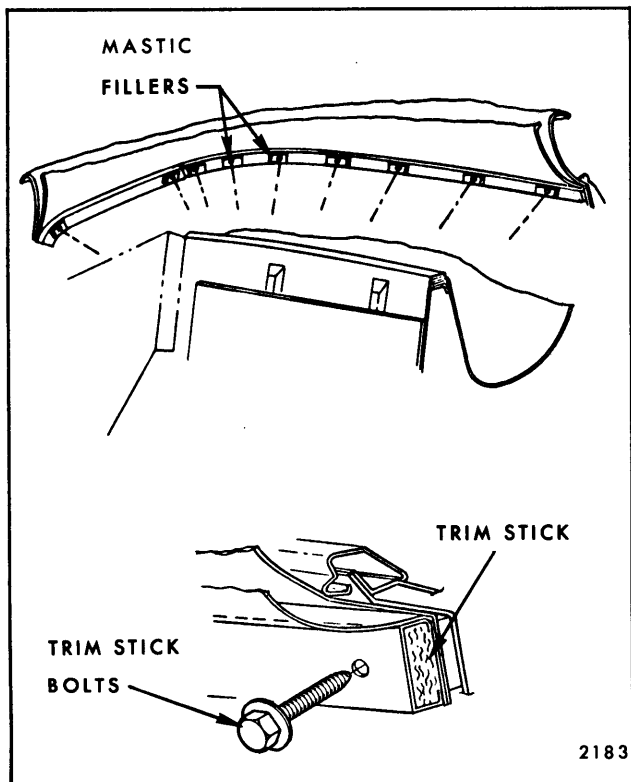

Fig. 13-50—Checking Trim Stick Fillers
8. Inspect mastic type trim stick fillers at body below pinchweld for sufficient seal at bolt holes (Fig. 13-50).